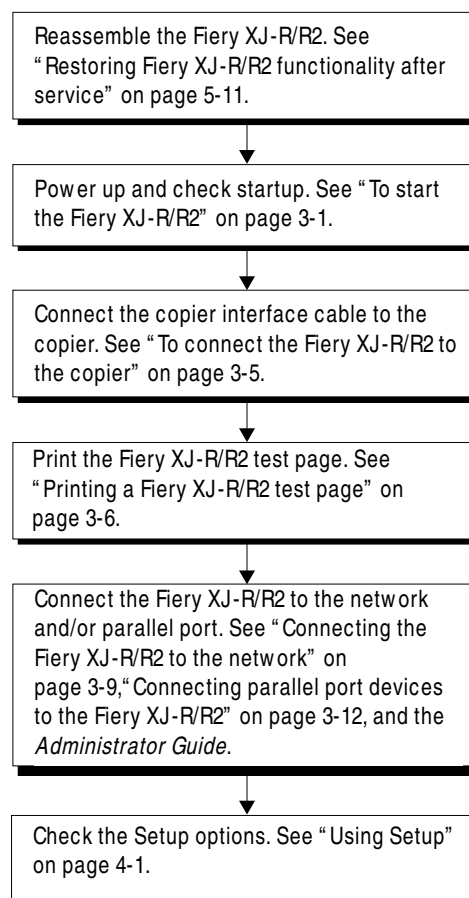

Figure 5-8 Fiery XJ-R/R2 connection verification steps
5. Before you leave the customer site, verify Fiery XJ-R/R2 operation as outlined in Figure 5-8.